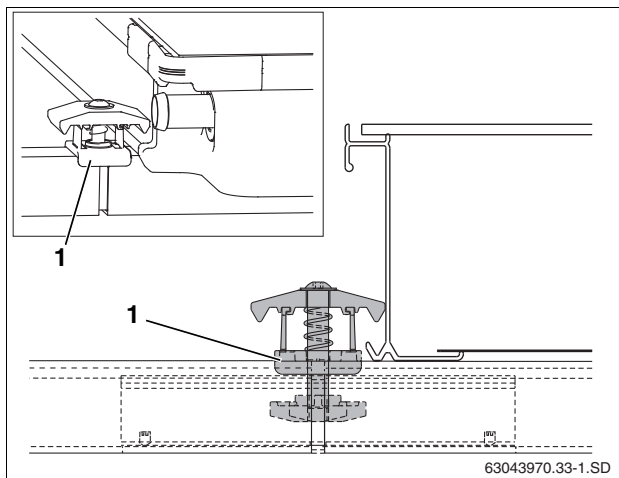

Fig. 48 Fitting a double-sided collector clamp
- ▶ Insert the double-sided collector clamp, nut first, into the opening made by the profile rail and connector so that the plastic spacer (Fig. 48, [1]) covers the profile rail.